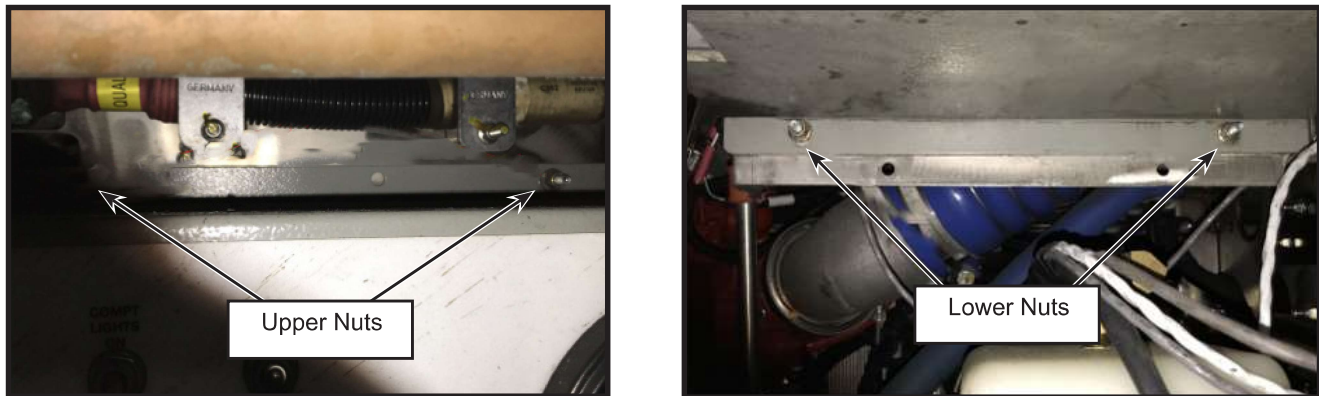

Figure 6 - View of Upper and Lower M6 Nuts
- 1.8. Remove the 2 upper M6 nuts that hold the engine box to the mounting bracket (see figure 6).
- 1.9. Remove the 2 lower M6 nuts that hold the engine box to the mounting bracket (see figure 6).